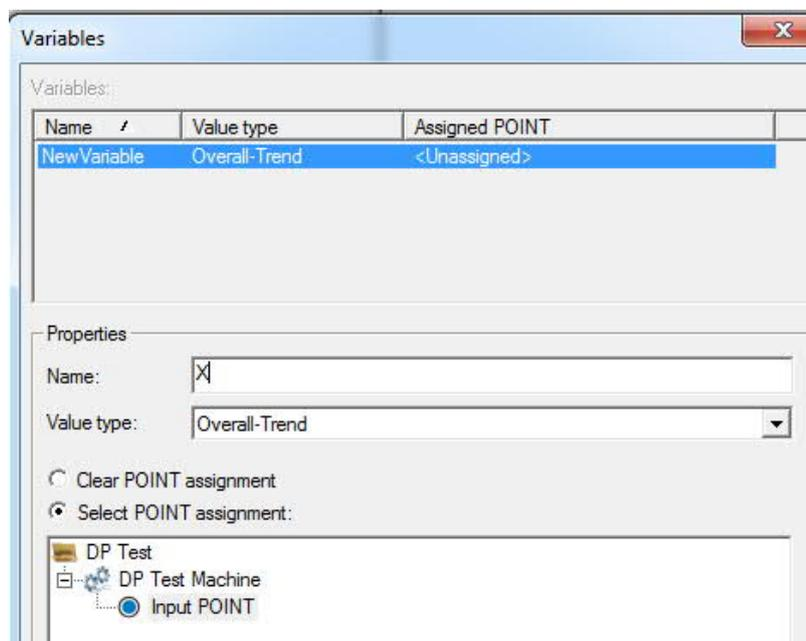

Figure 5. Creating a variable
- iii. Press the Variables button. In the Variables dialog, press the Add button. Change the name of the variable to "X". Make sure the Value type is set to "Overall-Trend". Choose the 'Select POINT assignment' option and select the Input POINT created in step 4a above. [Figure 5]